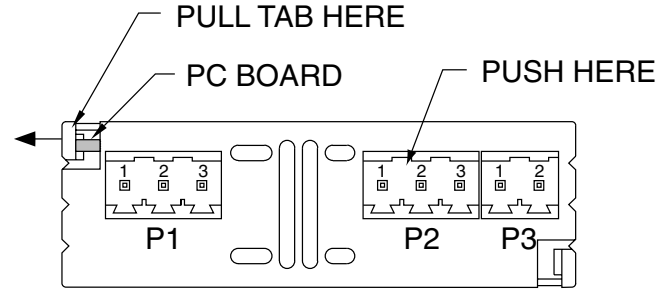

Figure 3-9. Removing the PC Board from the Case
2. Unplug the three connectors (P1, P2, and P3) from the back of the meter. Grasp them firmly on the top and bottom of the connector and pull. **Figure 3-9** shows the location of the three connectors.
4. The printed circuit board is held in place by a tab and notch system located next to the P1 connector, pin 1 (refer to **Figure 3-9**). The tab is on the case and the notch is on the edge of the PC Board. Hold the meter with the display facing away from you. Gently pry the tab (on the back corner of the case) out with the edge of your finger, while pushing the back of the PC Board out through the front of the meter. The PC Board will slide out the front, free from the case.